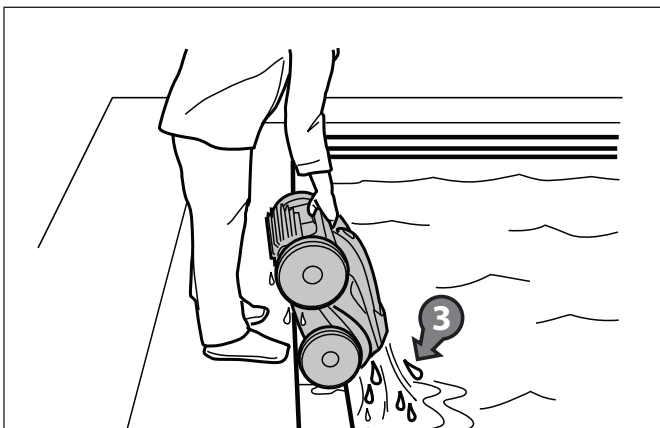

Figure 18. Keep Cleaner Vertical to Drain Water
2. Hold the cleaner vertically to drain (Figure 18).